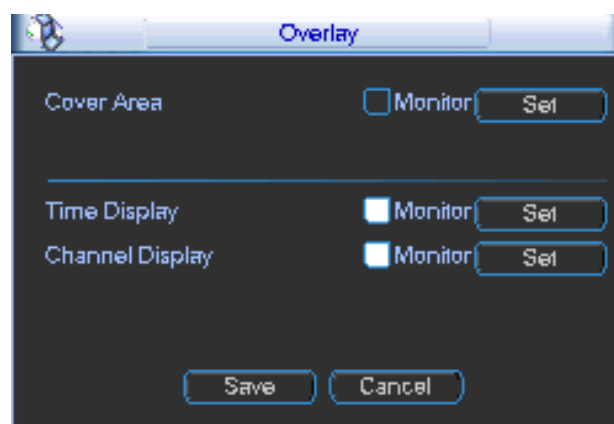

Figure 3-27
- Overlay: Click overlay button, you can see an interface is shown in Figure 3-27.